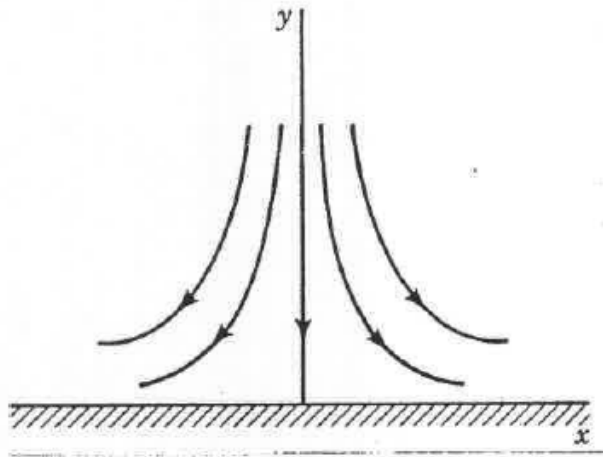

Figure 4
4. The two-dimensional velocity components  $u = Kx$  and  $v = -Ky$  are used to represent the flow against an infinite plane boundary as illustrated in Fig. 4. The constant  $K$  has the unit of  $1/s$ , and  $x$  and  $y$  are in meters. If  $K = 2$ , find the (a) acceleration components  $a_x$  and  $a_y$  and (b) pressure gradient  $\partial p/\partial y$ , at  $x = 0$ ,  $y = 1$ . For part (b), use the following Navier-Stokes equation,